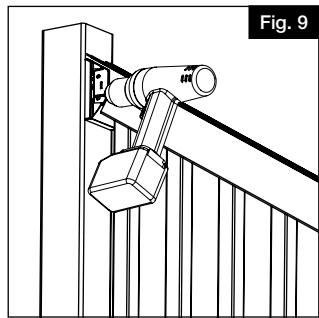

Fig. 9
- a. Make sure rails are fully seated with balusters and level and centered to post sleeve. While holding the top bracket snug to rail from underneath, and using  $\frac{1}{8}$ " drill bit, pre-drill first top bracket screw hole (Fig. 9). Drill through bracket hole, vinyl post sleeve and vinyl insert and loosely install first #10 x  $1\frac{1}{2}$ " screw.